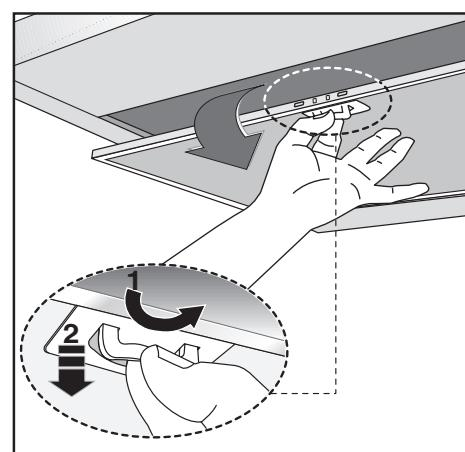

Fig.5
- The minimum distance between the support surfaces of the cooking pots on the cooker top and the lowest part of the cooker hood must be at least **65 cm**. If a connection tube composed of two parts is used, the upper part must be placed outside the lower part. Do not connect the cooker hood exhaust to the same conductor used to circulate hot air or for evacuating fumes from other appliances generated by other than an electrical source. Before proceeding with the assembly operations, remove the anti-grease filter(s) (Fig.5) so that the unit is easier to handle.